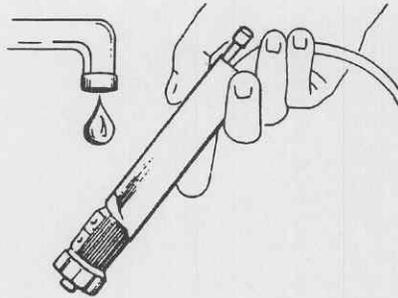

Figure 2-25. Rinsing.
(6) Rinse all traces of detergent from the handpiece by running water through the cutter/bur receptacle and aspirator tube connector (fig 2-25).